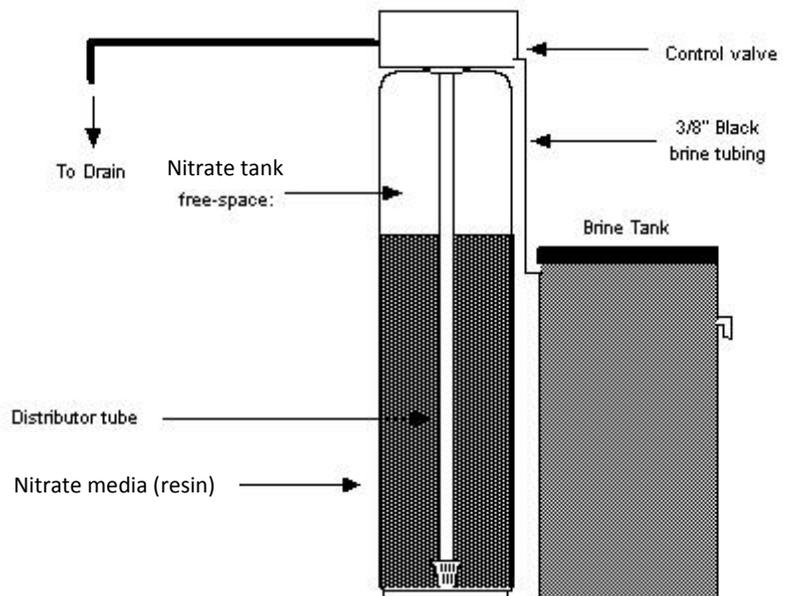

Fig 2 - Typical Nitrate 5900e piping installation with ball valve and hose bib after the filter along with pre- and post-filtration if necessary:
1. See typical installation (see Fig 2). The Nitrate is installed after the pressure tank.
3. Make sure there is a working gate or ball valve before the 5900e Nitrate and also one after as shown in the diagram (Fig 2). The pressure gauges are optional but a hose bib (a faucet that you can attach a garden hose to) is strongly recommended after the Nitrate and before the second ball valve. This makes it easy to rinse your new Nitrate on start-up and gives you a place to test the water before it enters your household plumbing.